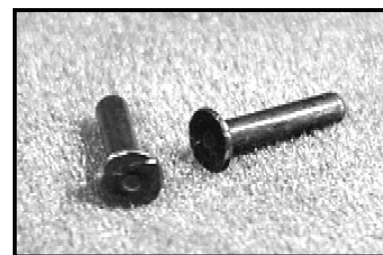

Figure 2
2. Separate the cartridge halves, and remove the pins from the interior of the cartridge. To simplify later removal, replace the OEM pin with a headed pin. (Figure 2).